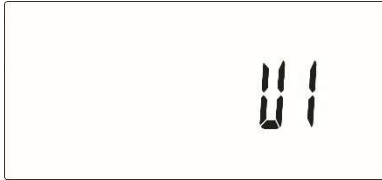
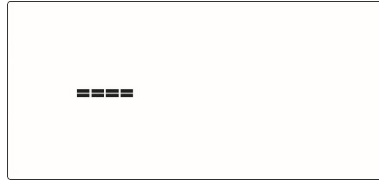

Fig. 019
Fig. 020
2. The display shows UX (Fig. 019) and starts the measurement (Fig. 020).